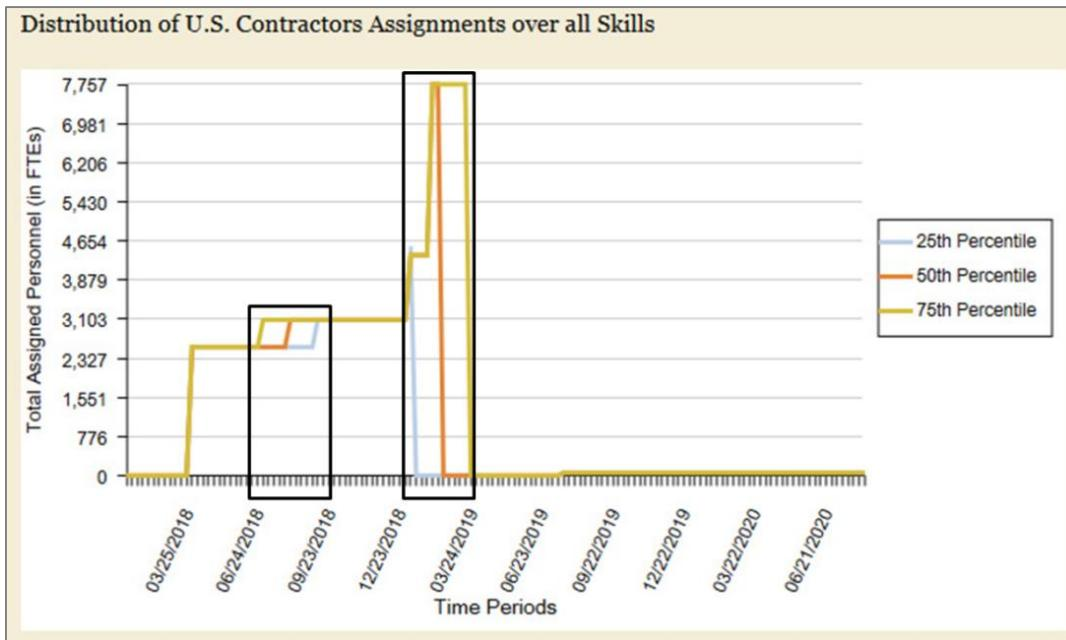
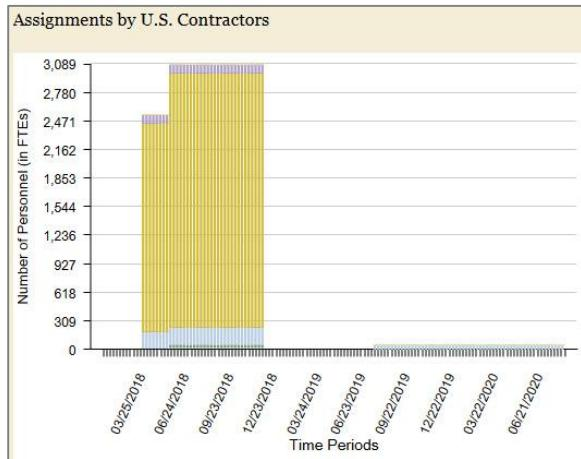

Figure 10. Distribution of U.S. Contractors assignments with Prussia phase 3 uncertainty.
Figure 11. U.S. Contractors total assignments for Prussia phase 3 of 8 weeks (baseline analysis). Max value is ~3,300 FTEs.
Now set the personnel group to “U.S. Contractors”. This shows the total FTEs assigned to U.S. contractors over time, across all capabilities (Figure 10). You will notice that U.S. contractors are primarily used for Prussia. This is because the “U.S. Personnel only” policy was applied to
Prussia, so the less expensive LN and TCN contractors could not be used. The three lines diverge in the same two places as for active military: July-September 2018 and January-March 2019 (shown in black boxes in Figure 10).
The July-September 2018 uncertainty occurs due to the phase 3 duration uncertainty impacting the start of phase 4, when the U.S. contractor demand increases by ~700 FTEs (Figure 10):
- In 25% of the cases, the U.S. contractor FTEs peak at ~4,500 and drop off in January. This represents the cases where there is minimal to no overlap of the two mission scenarios. Remember that for the shortest phase 3 duration, Prussia will end in December 2018. New Granada begins in January 2019, but requires minimal U.S. contractor support (see Figure 11).
Figure 11 and Figure 12 are presented for comparisons to the uncertainty graph to see how the degree of mission scenario overlap impacts U.S. contractor assignments. Note that the scales of graphs are different: Figure 11 has a max value of ~3,000, and Figure 10 and Figure 12 have a max value of ~7,700.